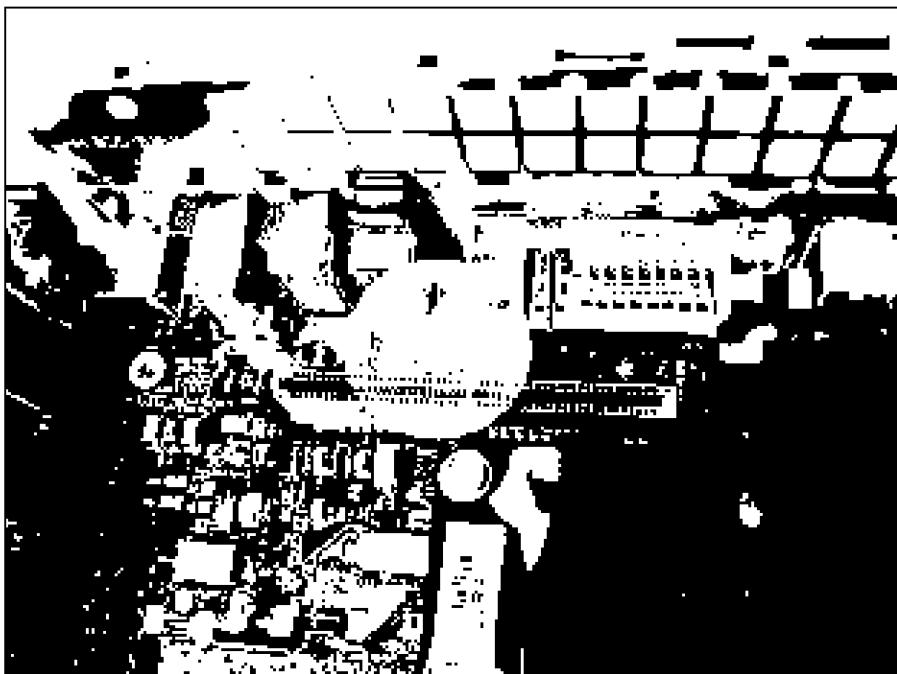

Figure 5-10:
4. Reset the Power Management Unit (PMU) by pressing the PMU switch located near the ports at the rear of the motherboard, as shown in Figure 5-10.